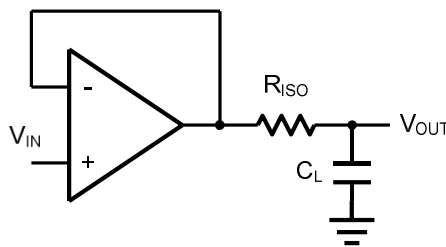
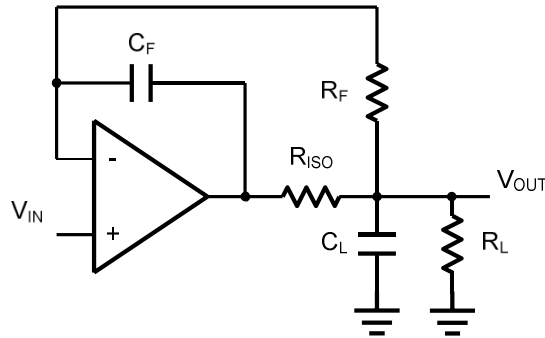

Figure 2. Indirectly Driving a Capacities Load Using Isolation Resistor
Figure 3. Indirectly Driving a Capacities Load with DC Accuracy
The HGV855x family is optimized for bandwidth and speed, not for driving capacitive loads. Output capacitance will create a pole in the amplifier's feedback path, leading to excessive peaking and potential oscillation. If dealing with load capacitance is a requirement of the application, the two strategies to consider are (1) using a small resistor in series with the amplifier's output and the load capacitance and (2) reducing the bandwidth of the amplifier's feedback loop by increasing the overall noise gain. Figure 2. shows a unity gain follower using the series resistor strategy. The resistor isolates the output from the capacitance and, more importantly, creates a zero in the feedback path that compensates for the pole created by the output capacitance.
The circuit in Figure 3 is an improvement to the one in Figure 2.  $R_F$  provides the DC accuracy by feed-forward the  $V_{IN}$  to  $R_L$ .  $C_F$  and  $R_{ISO}$  serve to counteract the loss of phase margin by feeding the high frequency component of the output signal back to the amplifier's inverting input, thereby preserving the phase margin in the overall feedback loop.